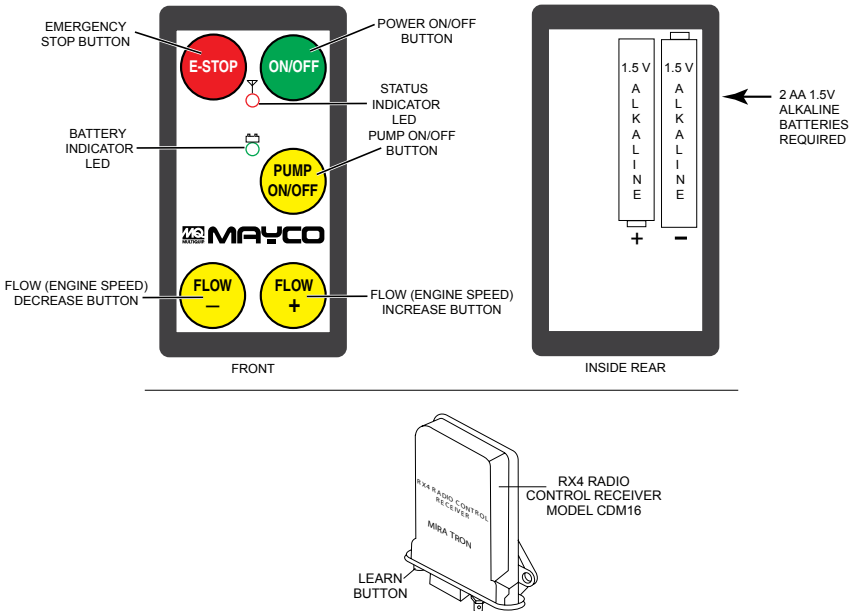

Figure 2. Transmitter/Receiver
1. Wire data cable into control box as shown in Figure 2.
1. Connect the remote control cable to the control box as shown in Figure 2 .